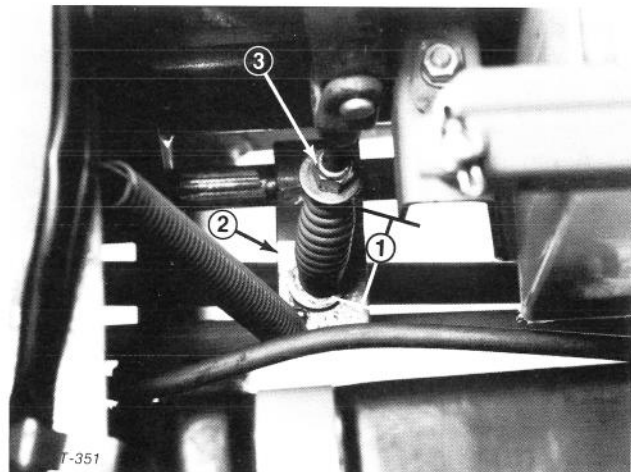

Figure 45
- 3. Measure length of PTO spring between flatwashers (Fig. 45). There should be a spring length of 3-3/16 inches (81 mm).
- 4. To adjust, hold head of adjusting screw with wrench (under PTO actuating arm) and turn locknut (Fig. 45).